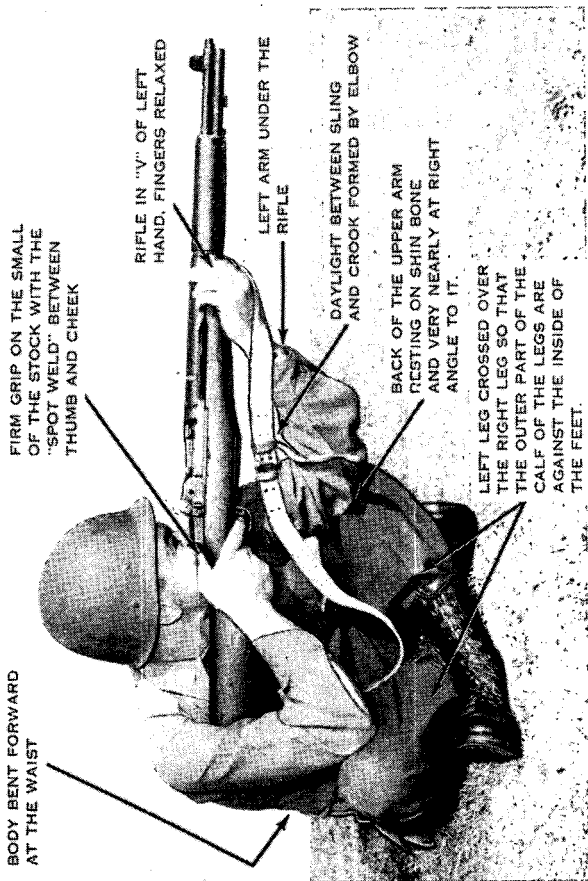

Figure 74. The cross-legged position (alternate to the normal sitting position (fig. 73).)
a. *Cross-Legged Position* (fig. 74). In this position the firer sits with the left leg crossed over the right leg. His feet are drawn up close to the body so that the outer part of the calf of each leg rests on the inside of the opposite foot. The back of the upper arms are supported against the shinbones and are very nearly at right angles to them. The rest of this position is the same as for the normal sitting position.